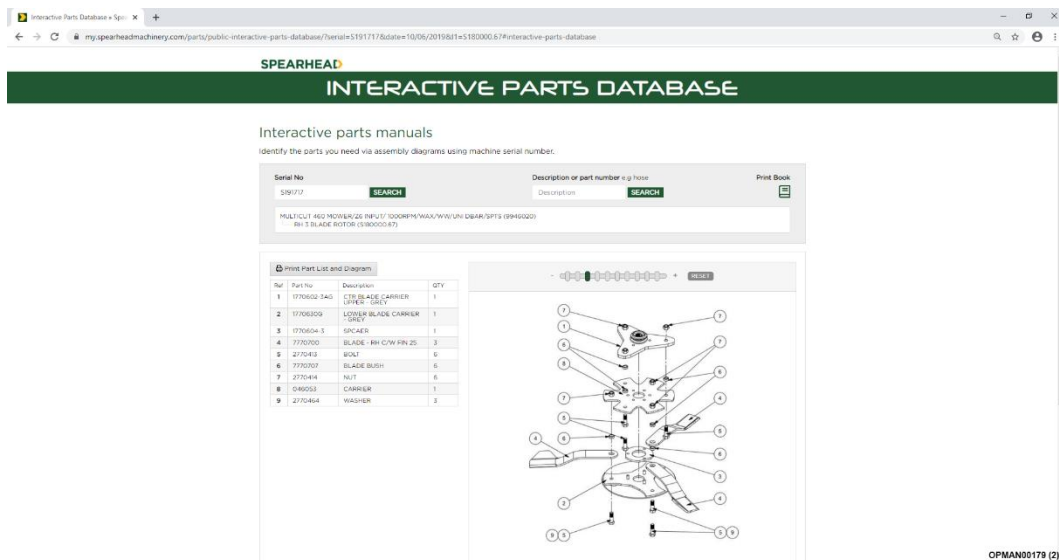

Figure 20 – Exploded Parts Breakdown With Bill Of Materials
- 7.1.1.4 You will finally be presented with a full exploded parts breakdown for that particular assembly, giving part numbers and the quantities required; see Figure 20.